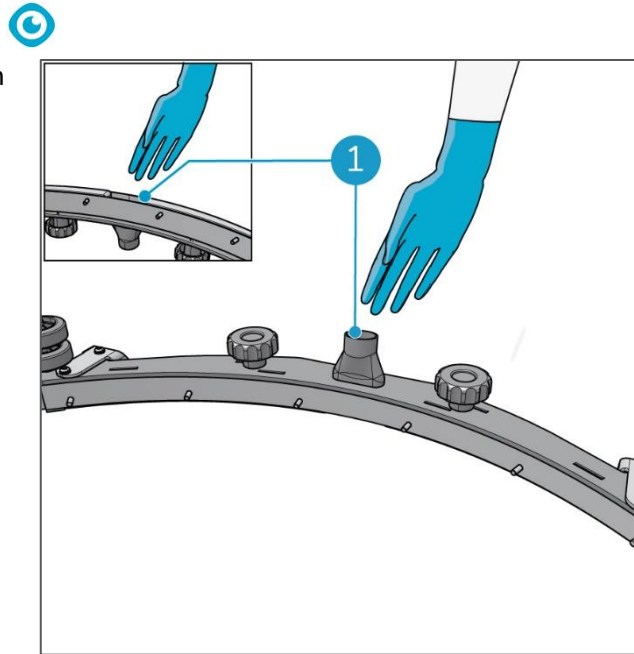

Figure 45
9. Carefully remove debris from the recovery water inlet (Figure 45, pos 1) by hand.